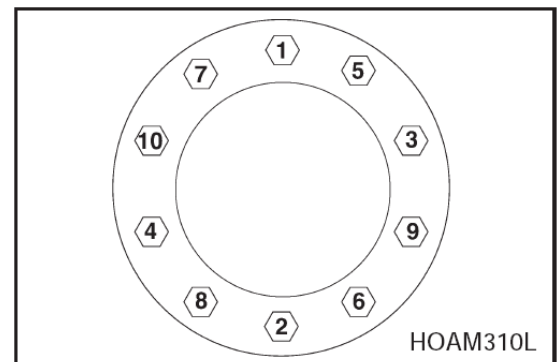

Fig.18
6. When you tighten the wheel nuts, refer to the pattern shown in Fig.18. Tighten the nuts to the specified torque (tightening torque: 600-680N.m and coat tightening glue on the mounting bolts)